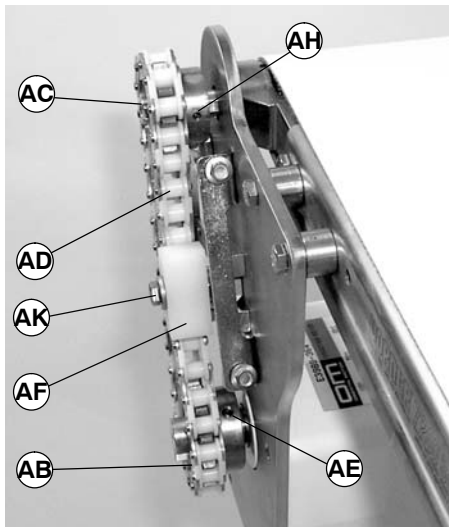

Figure 24
2. Loosen timing chain tensioner screw (AK of Figure 24).
**IMPORTANT:** Make sure center of timing chain (AD of Figure 24) aligns with center of chain tensioner (AF). If necessary, loosen two set screws (AE) to move drive sprocket (AB) in or out. Tighten set screws. Also, if necessary, loosen two set screws (AH) to move driven sprocket (AC) in or out. Tighten set screws.
**NOTE:** Do not overtension chain (AD). Only tension chain until slack is removed.
7. Slide chain tensioner (AF) to take up chain slack. Tighten chain tensioner screw (AK of Figure 24) to 92 in-lb (10.4 Nm).